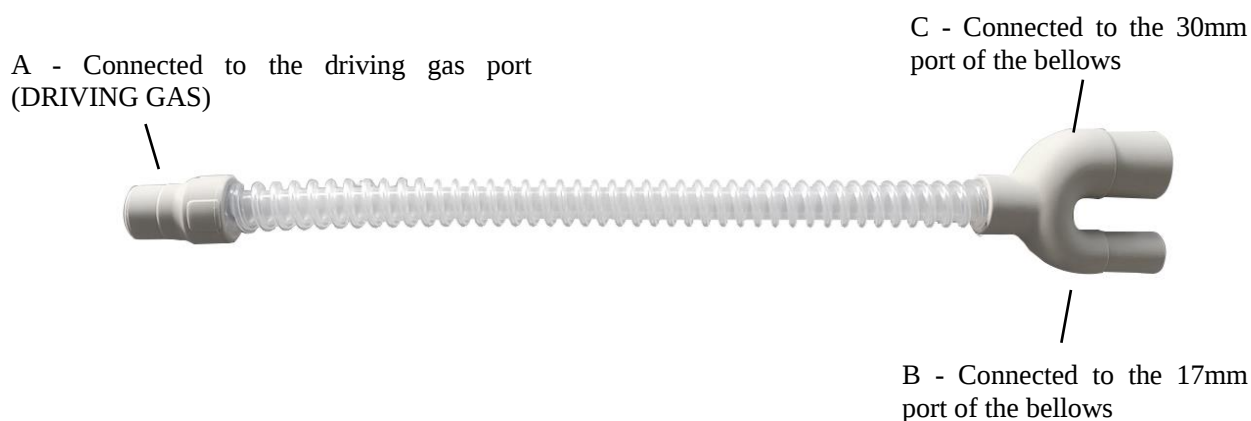

Figure 3-3
- 1) As shown in Figure 3-2 and Figure 3-3, connect the B port of the Y-shaped connecting pipe to the 17mm port of the bellows base, connect the A port to the driving gas port of the control unit, and connect the C port to the 30mm port of the bellows;